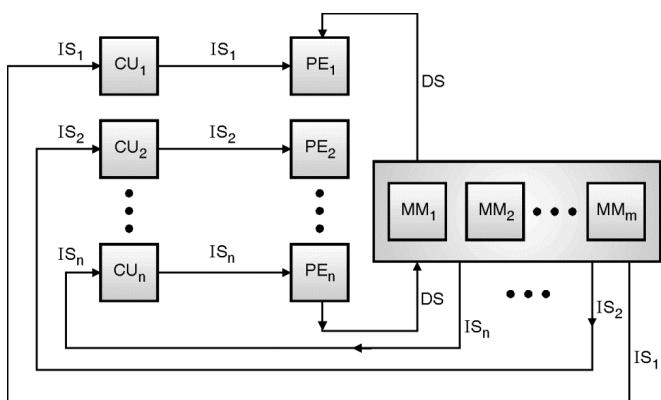

Fig. 10.11.3 : MISD computer
- This system is not used much, but can be used in cases where in a data has to undergo many computations to get the result for e.g. to add two floating point numbers. Fig. 10.11.3 shows the implementation of such a system.